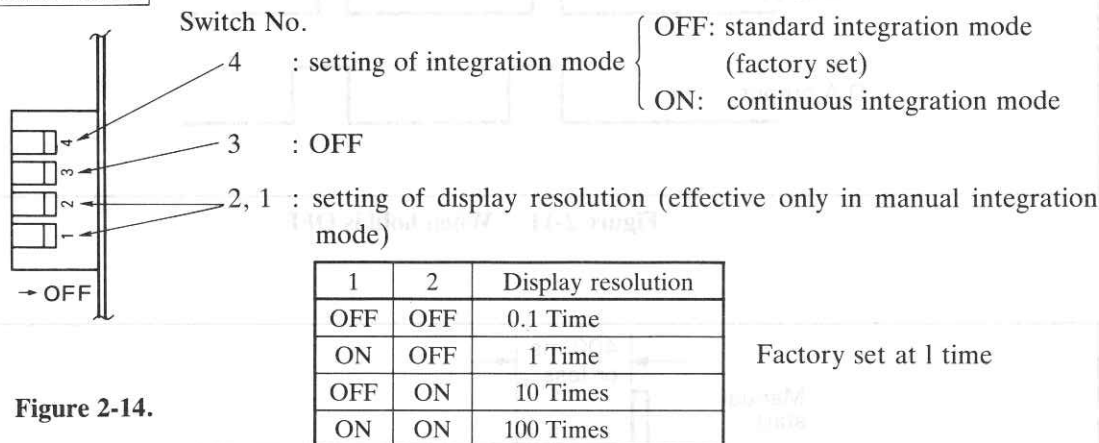
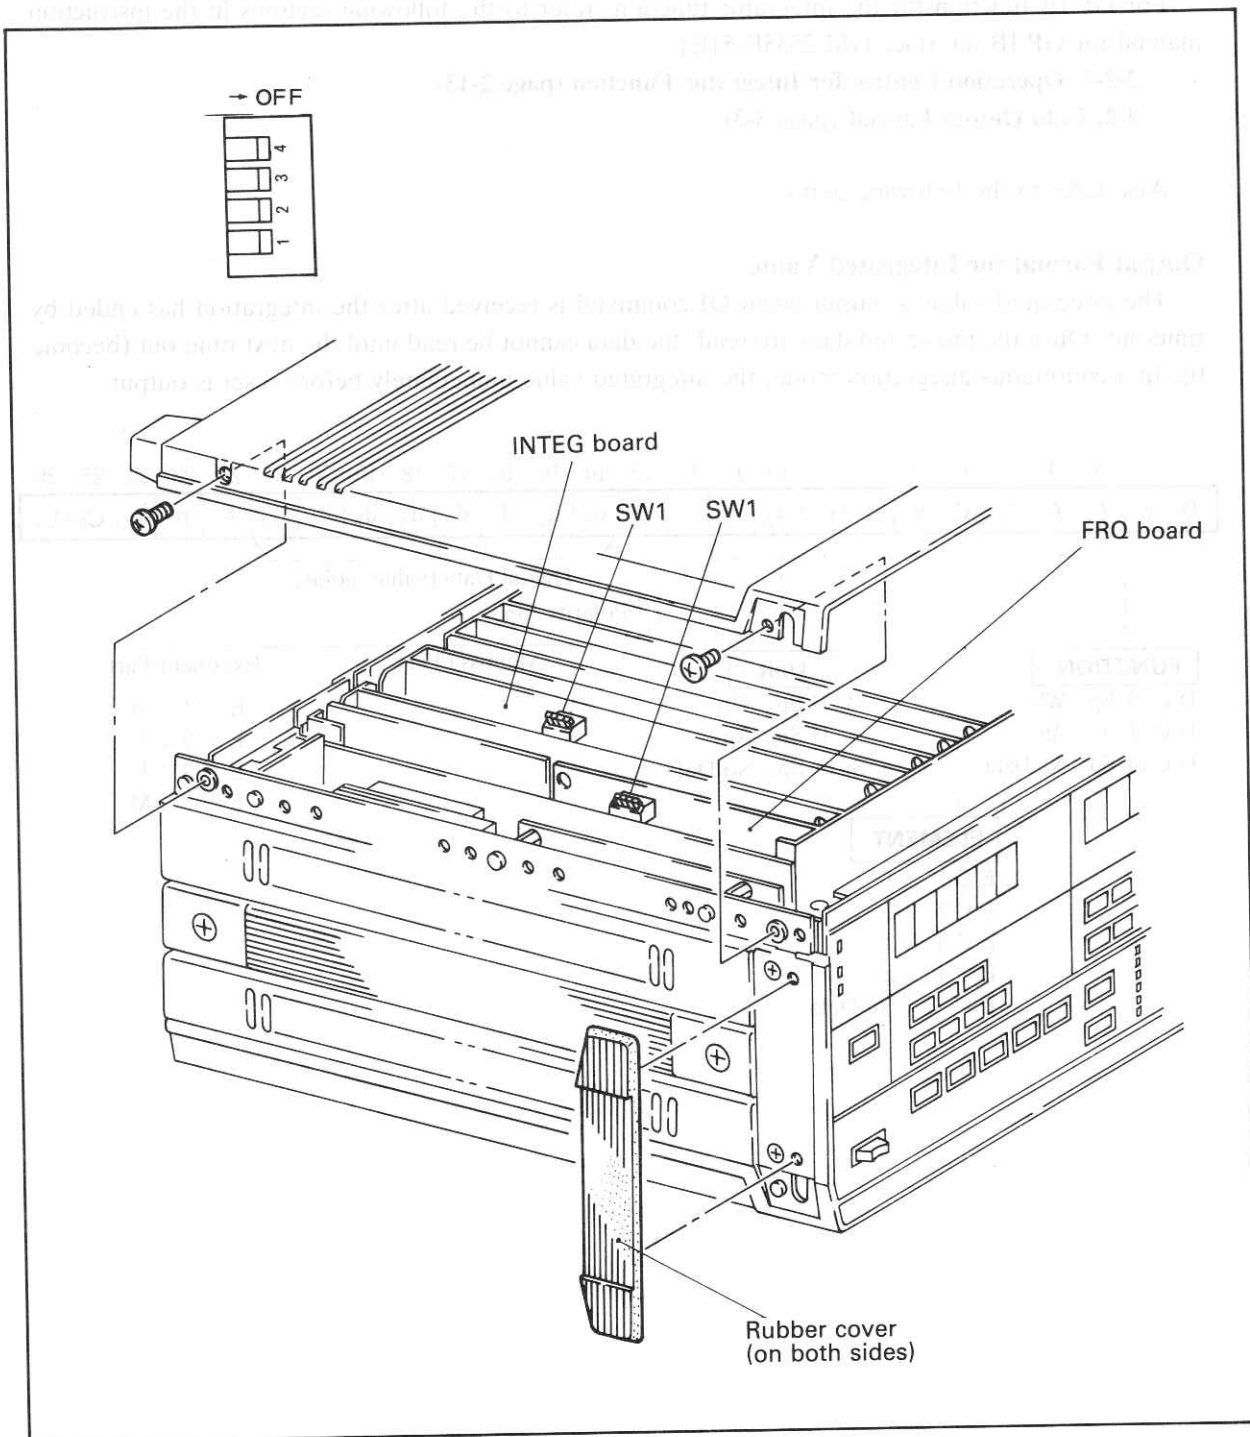

Figure 2-14.
Figure 2-13.
- (1) Disengage the power cord from 2533E. Remove the rubber cover from the side front of 2533E (see Figure 2-13.). When a fixture is attached, remove it by a screwdriver referring to Figure 2-6 in the instruction manual of the mainframe.
- (2) Using a screwdriver, loosen 4 screws from the upper case.
- (3) Remove the upper case.
- (4) Referring to Figures 2-14 and 2-15, set the DIP switches to a desired value. Do not tamper with other parts to avoid a malfunction. Do not admit foreign matter into the mainframe.